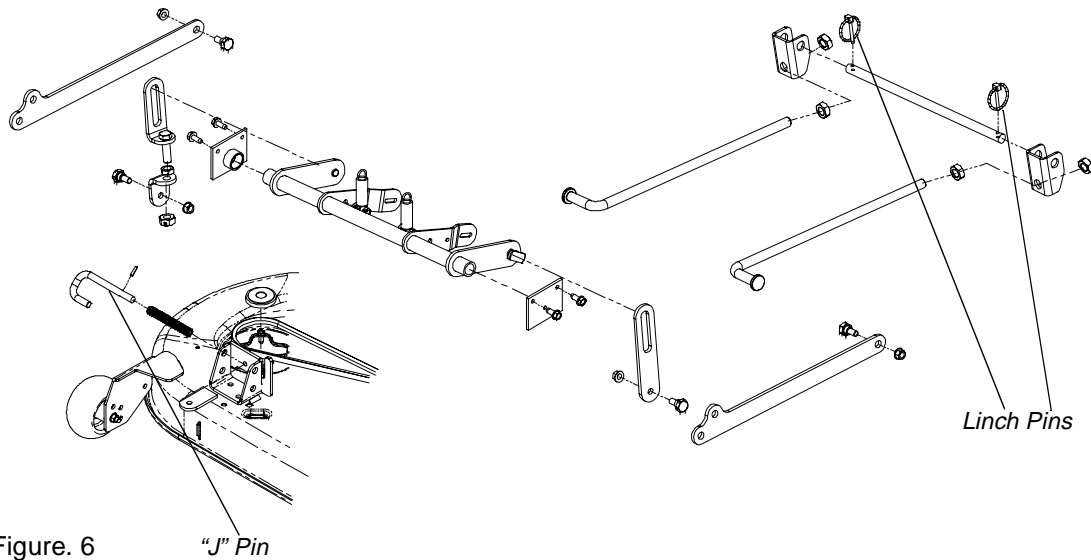

Figure 6
- e. Remove two linchpins (See Fig. 6) from the front of the mower. Pull the two (2) spring-loaded "J" pins on the left and right rear side of the cutter deck.